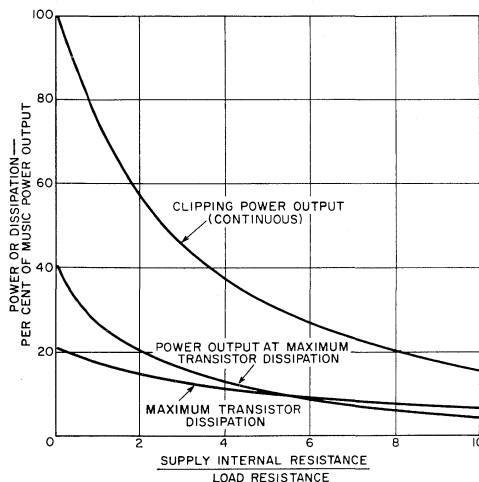
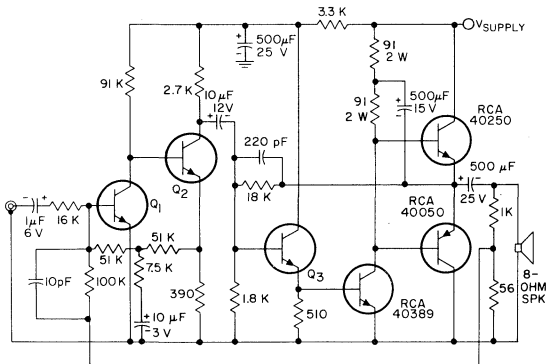

Fig.2 - Power output and dissipation as a function of the ratio of internal supply to load resistance.
Fig.3 - A practical class B amplifier circuit.
Eqs. (5), (6), and (7) are plotted in Fig.2. Power levels are normalized with respect to the music power output and are plotted as a function of  $R_S/R_L$ . These equations are derived in Appendix A.
Fig.2 shows that transistor power dissipation is only a small fraction of the clipping power output for higher ratios of  $R_S/R_L$ . For example, a 100-watt amplifier can use transistors and associated heat sinks capable of a maximum dissipation of only about 7 watts each. However, Eqs. (5), (6), and (7) (and consequently
the curves of Fig.2) do not reflect high line voltage or the effects of ripple voltage. Calculations of average power dissipation in transistors should also include no-signal bias dissipation, the increase in bias dissipation with increasing ambient and junction temperatures in class AB circuits, storage effects, phase shift, and thermal tracking.3,4
Fig.3 shows a class B complementary-symmetry power-amplifier circuit in which bias dissipation is not a problem; it is negligible at all practical temperatures. One side of the amplifier operates at cutoff and the other conducts less than one milliamperere. Thermal runaway cannot be initiated in the output-stage transistors at any junction temperature below the maximum transistor rating. Consequently, thermal tracking may also be neglected as long as the sum of the ambient temperature plus the product of the instantaneous dissipation and the junction-to-ambient thermal resistance is below the maximum junction-temperature rating.
symmetry configuration. Fig.3, then, represents a practical example of an amplifier capable of achieving the characteristics shown in Fig.2. The amplifier circuit is discussed in further detail in Appendix B.